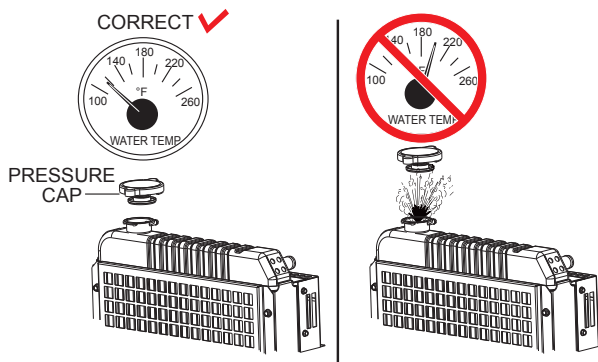

Figure 74. Radiator Pressure Cap Removal
1. Remove the radiator pressure cap (Figure 74) only if the coolant temperature is below 120°F (50°C).